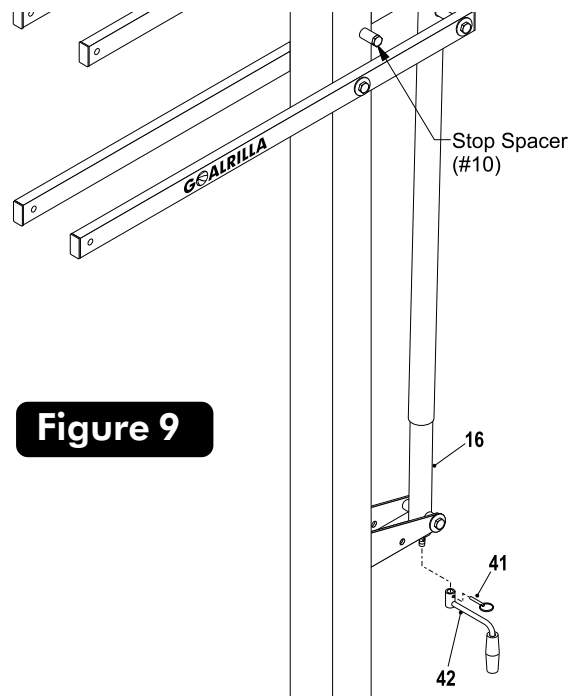

Figure 9
14. To aid in the assembly of the backboard lower the backboard, by turning the Actuator Crank, until the lower arm makes contact with Stop Spacer (#10) See Figure 9.